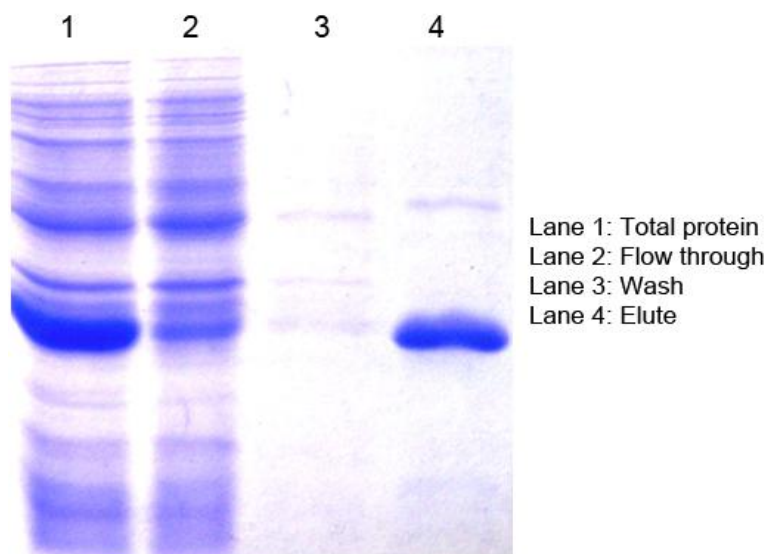

Fig.1. Purification profile using High-Affinity GST Resin
8. Aliquot 10-20 µL of supernatant containing GST-fusion protein, flow through, wash and the eluted protein, respectively, and analyze all the samples by running SDS-PAGE to confirm the presence of the target protein. An example was shown in Figure 1.